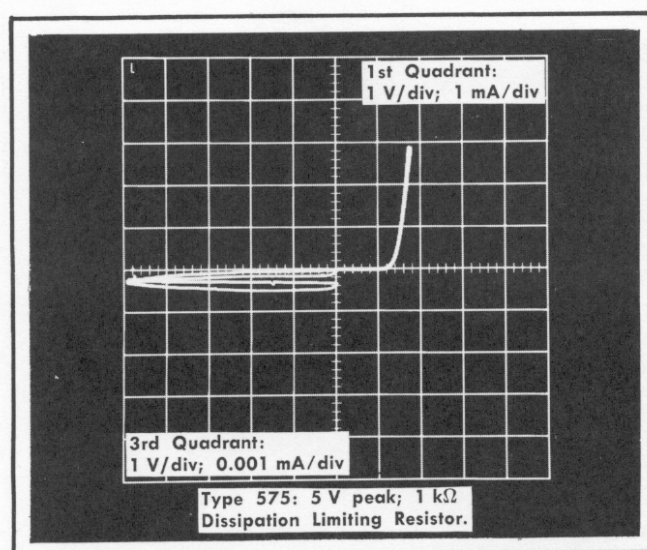

Fig. 4-4. Type 575 Characteristic curves of forward and reverse voltage conduction of D2A, D2B and D2C. Do not use more than 5 volts peak.
2. Refer to Fig. 4-3 for testpoints that must be used for checking D2A, D2B and D2C in one group or D2D, D2E and D2F in a second group. For the first group, the curve tracer positive lead is to be attached to ground and for the second group the positive lead is to be attached to J53. Attach the negative lead of the first group to J51. When checking the second group ground the negative lead. These polarity connections test each group of three diodes for their forward conduction in the curve tracer first quadrant as shown in Fig. 4-4.
5. Connect the E lead to the Sampling Gate terminal J51 and the C lead to ground. The Type 575 display should now be like the first quadrant display of Fig. 4-4. If the display shows slightly more than 1.2 volts flat display and then a rising portion like Fig. 4-4, the three diodes D2A, D2B and D2C are operating correctly in the forward direction. Check the other three diodes forward conduction before measuring either set reverse leakage.
6. Move the test leads so the E lead is touching the sampling head ground and the C lead is touching J53. The display should be the same as that in the first quadrant of Fig. 4-4.
8. The set-up of part 7 gives a vertical deflection factor of 0.001 mA/Div, and will probably include some hum loops as shown in the third quadrant of Fig. 4-4.